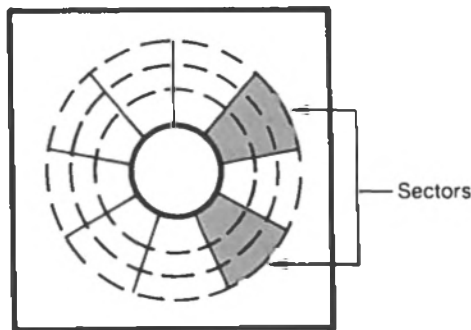

Figure 1-6 Diskette Sectors
6. Each track is further divided into sectors (see Figure 1-6). Either eight or nine sectors per track can be defined on a diskette. Recording or reading of data by most programs, including application programs, is performed one sector at a time. Thus, the data in each sector can be referred to as a data block, or a physical record (see Figure 1-7). Each data block or physical record can be treated by the software as containing one logical record (the record of one account, one customer, one order, etc.), or as part of one larger logical record, or multiple logical records. A set of